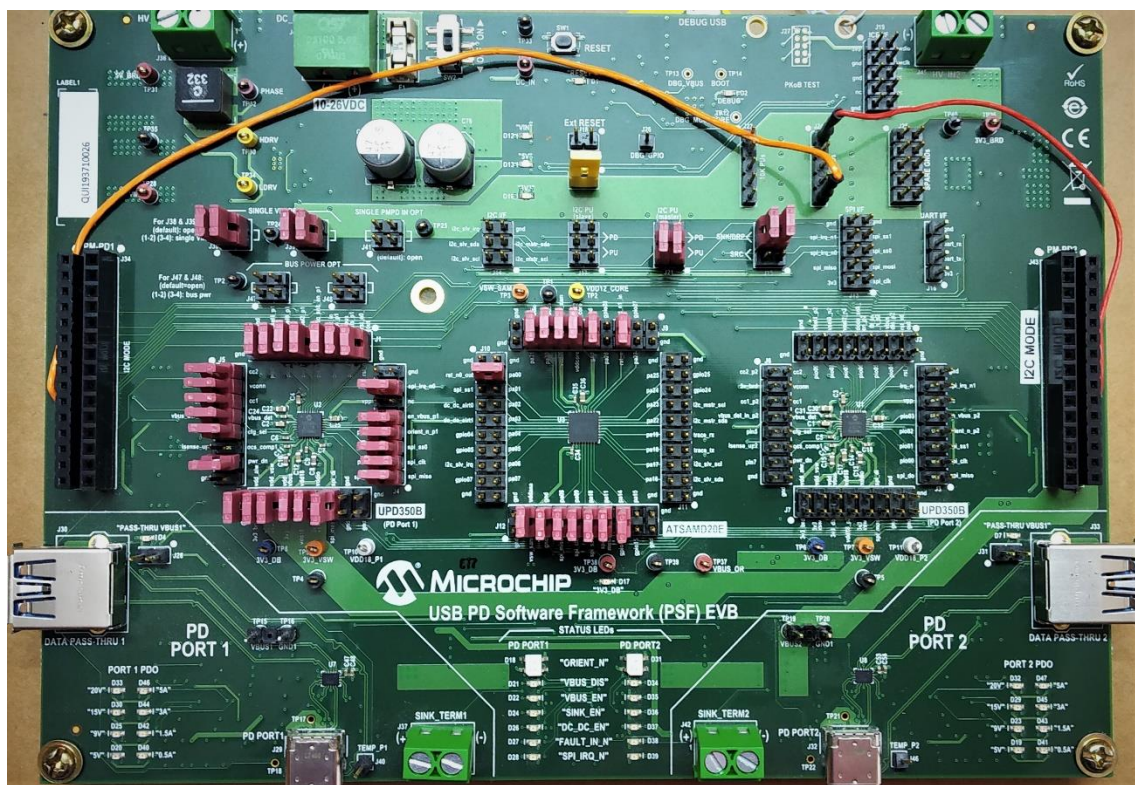

Figure 5.1 PSF-EVB with jumper connections
1. Ensure the following jumpers are connected in PSF-EVB before proceeding to next step. An image of PSF-EVB with all the required jumper connections highlighted is shown in Figure 5.1